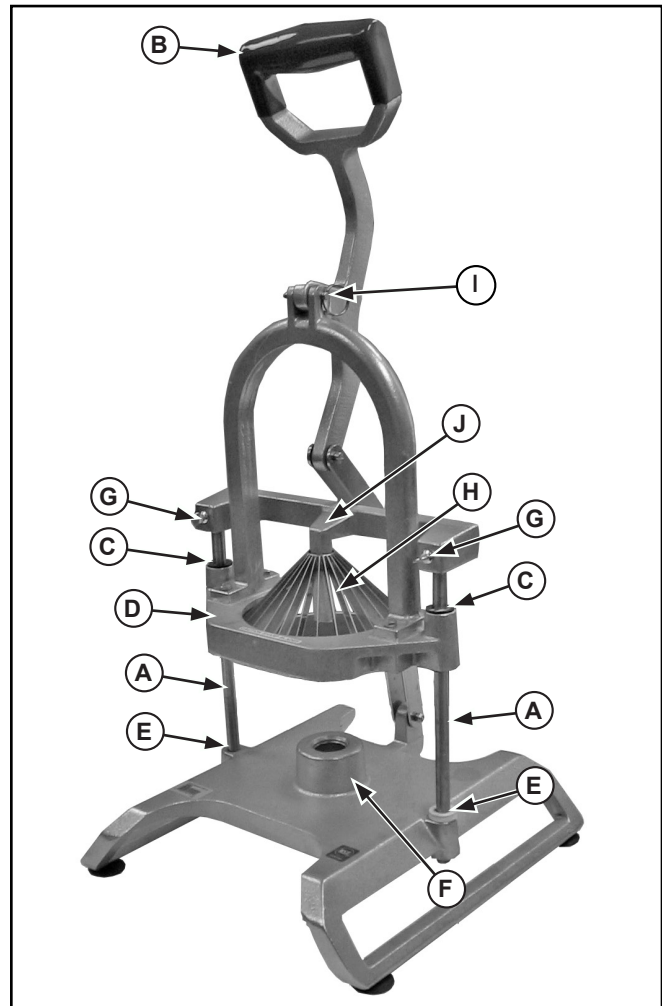

Figure 1. Features and Controls.
2. Before each use, always check for proper blade alignment. Slowly set the pusher head (D) onto the blade assembly. See Figure 1. They should slide together with no obstructions. If there are obstructions, verify they are a matching set. Remove the obstruction.
6. Lift the handle (B) put into the up position so the pusher head remains in the up position and locked position.
1. Set the handle (B) and pusher head assembly (D) in the down position. See Figure 1.
2. Remove and retain the locking pin (I).
3. Move the handle (B) away from the pusher head assembly (D).
4. Loosen the thumb screws (G) and remove the core pusher (J).
5. Slide the pusher head assembly (D) off of the guide rods (A).
6. Remove and retain the screws (T) and blade retainer (P). See Spare Parts Lists and Exploded View.
7. To remove the blade assembly, remove screws (S) and blade retainer (R) from blade holder (P) and lift out.
6. Remove and retain the screws (T). See Spare Parts Lists and Exploded View.
7. Remove and discard old blade assembly (U).
8. Place the new blade assembly (U) into the blade holder (O).
9. Secure the new blade assembly (U) to the blade holder (O) using the blade retainer (P) and the screws (T).
10. Set the blade holder (O) and lift bracket (M) onto the guide rods (J).
11. Set the core pusher (L) onto the guide rods (G). Tighten the thumb screws (D).